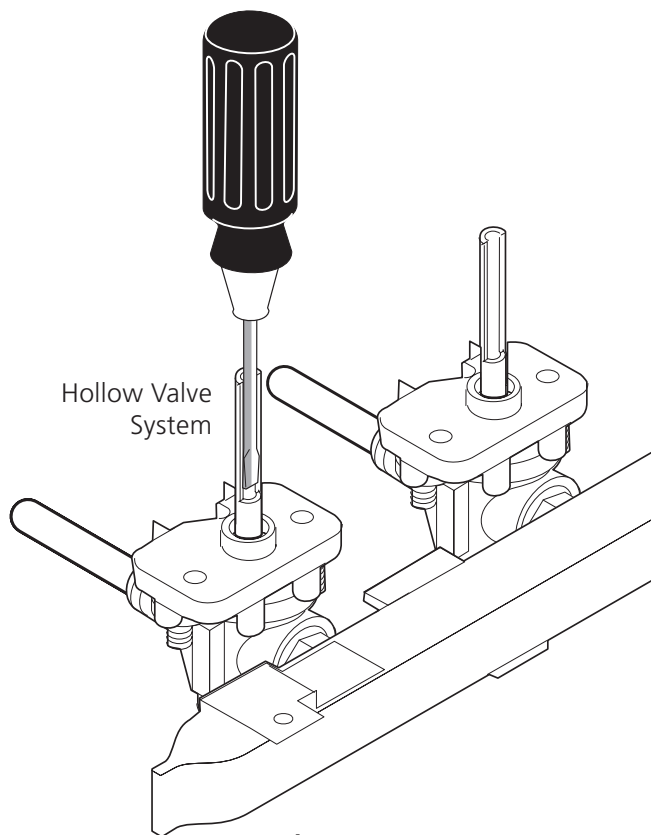

Figure 8
4. Adjust the “low” setting for regular surface burner valves (Figure 8)